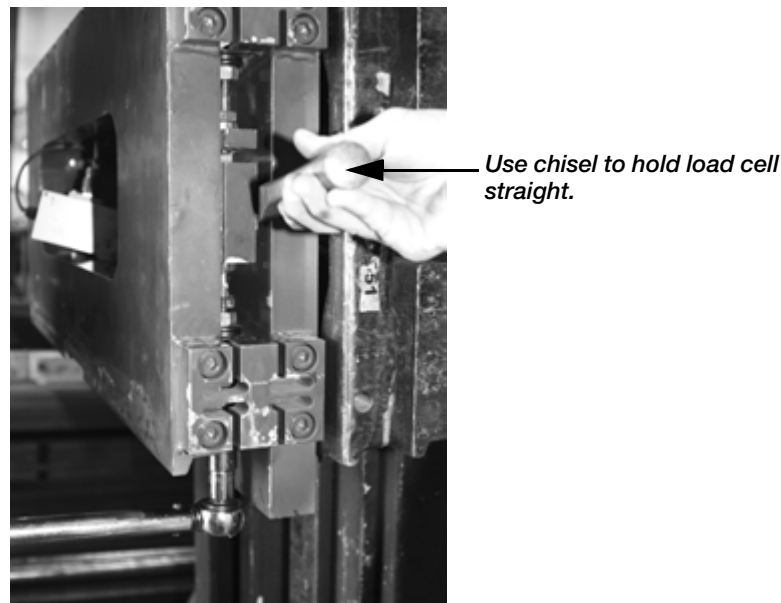

Figure 2-9. Use Chisel to Hold the Load Cell in Straight
25. Tighten the jam nuts on top and bottom of the load cell. Make sure they are tight and load cell is completely vertical to the scale. To accomplish this, you can use a pry bar or chisel to hold the cell straight as illustrated in Figure 2-9.